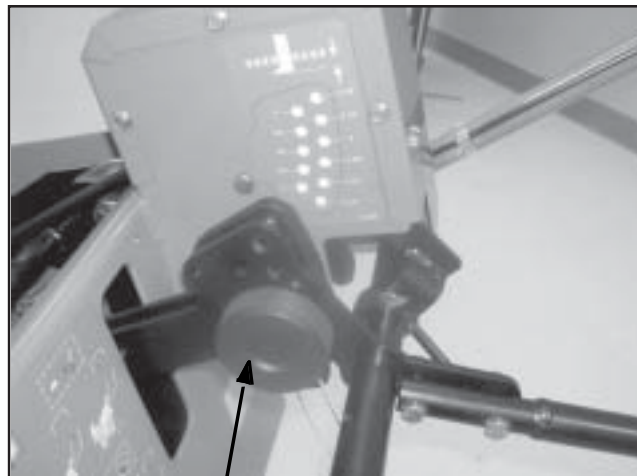

FIGURE 5
7. Place knob into selected depth of cut hole and secure tightly. See Figure 5.